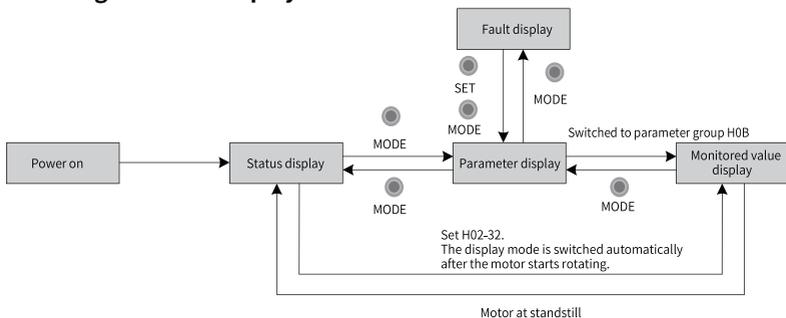

Figure 1-2 Switching among different display modes
- Press MODE to switch among different modes based on the conditions shown in "Figure 1-2" on page 11.